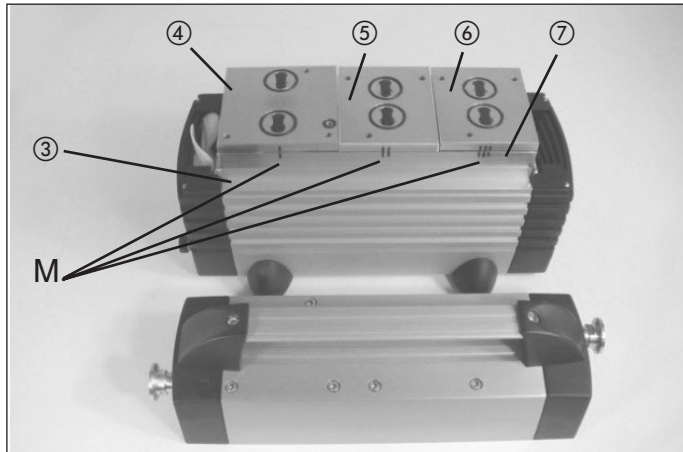

Fig. 5: Servicing level 2
- 2 Mark the position of intermediate plate ④ and adapter ⑦ relative to each other by a drawing line (M) with a felt-tip pen. This helps avoid incorrect assembly later (fig. 5).
- 3 Mark the position of intermediate plate ⑤ and adapter ⑦ relative to each other by two drawing lines (M) with a pencil (see fig. 5).
- 4 Mark the position of intermediate plate ⑥ and adapter ⑦ relative to each other by three drawing lines (M) with a pencil (fig. 5).
- 5 Lift the intermediate plates ④, ⑤ and ⑥ off the adapter ⑦ (fig. 5).